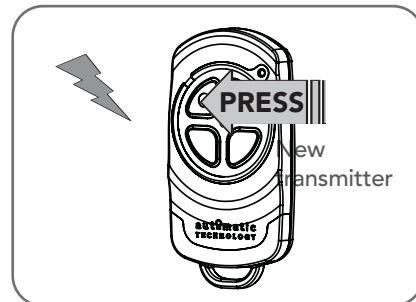

Fig 11.2
- Within 10 seconds, press the button on the new transmitter you wish to code for 2 seconds (**Fig. 11.2**).